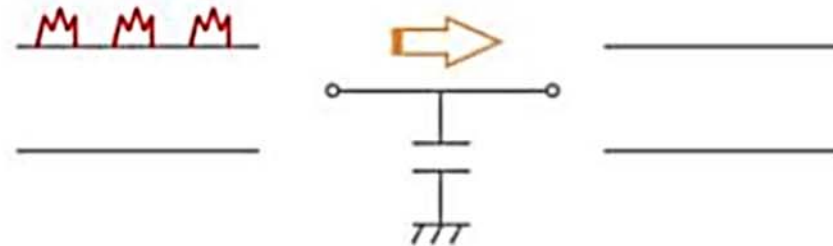

Figure 2. Capacitors for decoupling
- Decoupling capacitors are used to pass noise coming in from the power source to the ground terminal, while at the same time continuously supplying stabilized current to combat sudden changes in load current on ICs and other circuits. As shown in Figure 2, even if the noise is superimposed on the line, unwanted noise can be passed to the ground terminal via decoupling capacitors.